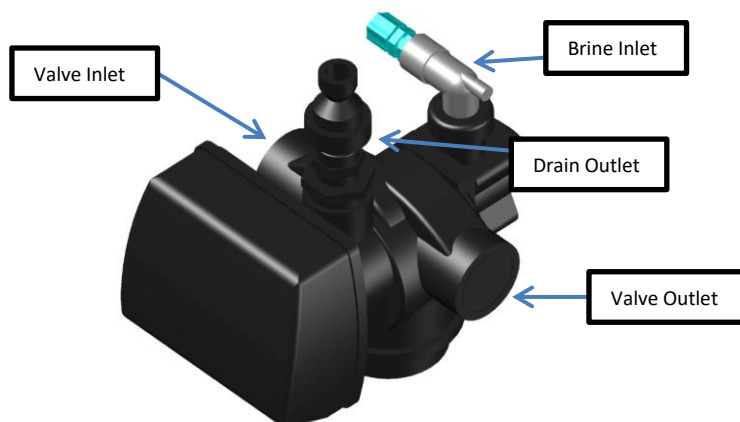
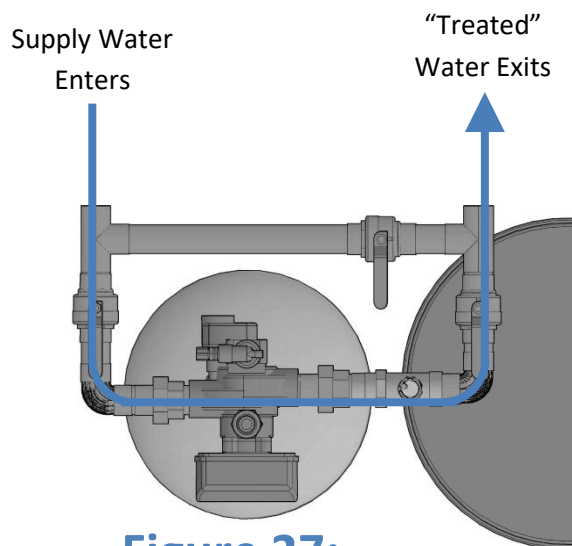

Figure 15: Control Valve Diagram
Figure 27:
1. Pipe or tube a line from the Control Valve Drain (Figure 15) to the drain. Refer to section 9 for the proper sized drain line. Put the bypass control valve into bypass operation shown in figure 27.